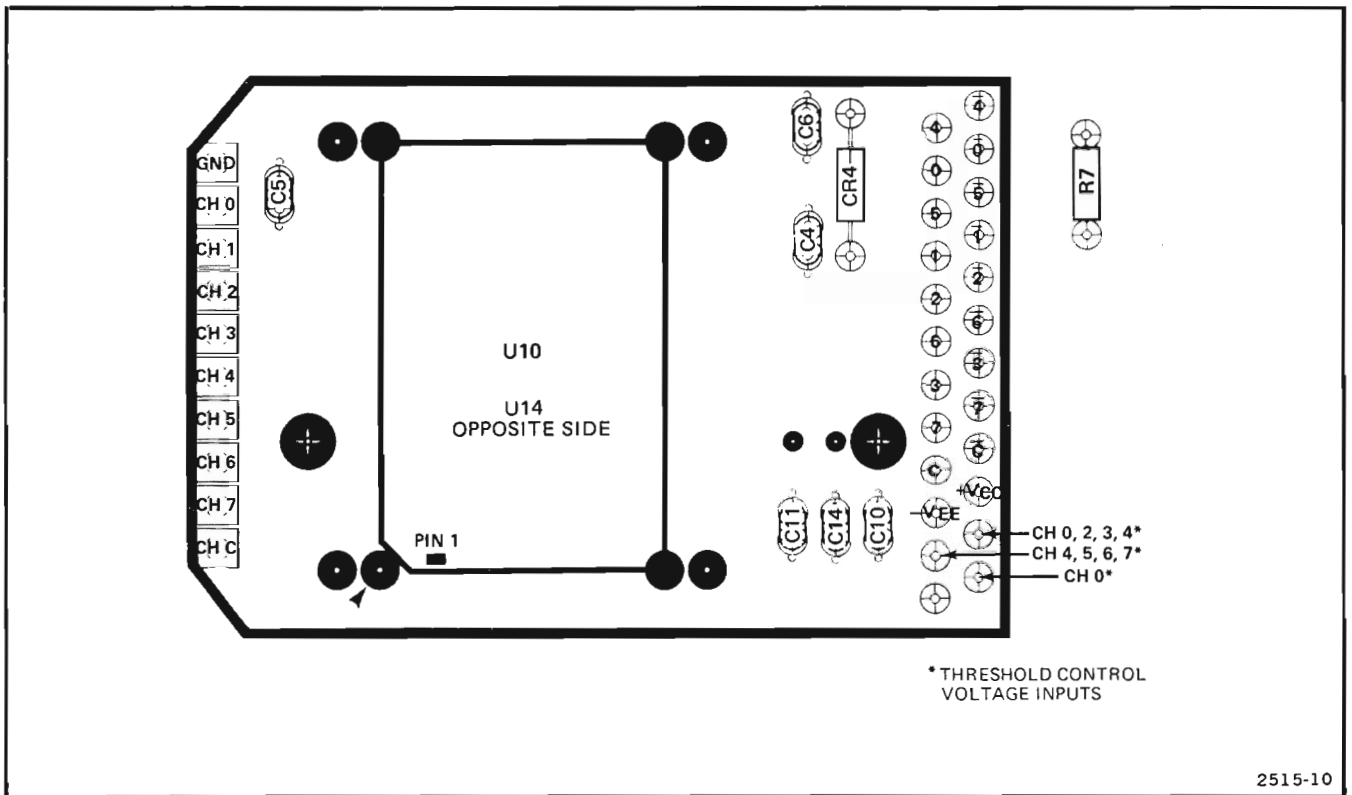

Figure 9. Component locations on the circuit board.
See Figure 9 for component locations on the circuit board; and see Figure 10 for probe head cable connections.
5. Replacement of Parts. If one of the hybrid integrated circuits is defective, or if the circuit board is damaged, a wired circuit board with components is available. See the Replaceable Parts List for Tektronix part numbers of available components. Electrical replaceable components are called out by component number on Figure 9. The Replaceable Electrical Parts list contains reference to circuit numbers, and components are also called out by index numbers in the Replaceable Mechanical Parts list.